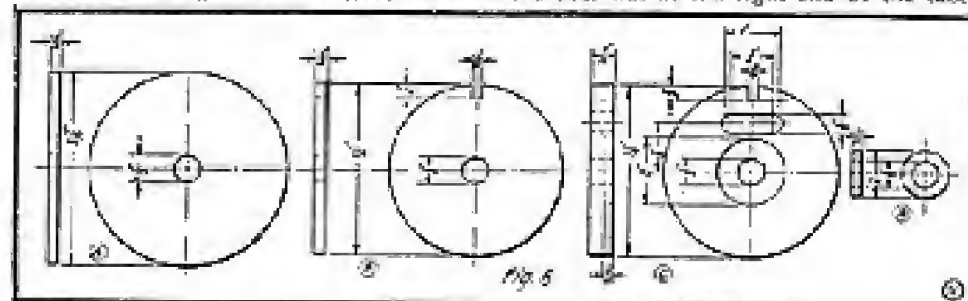

Fig. 8. End Discs of Secondary Coil.
Fig. 8 gives the size of these pieces. In turning them up, bore the 1/2-inch hole in the center first; then turn them on a wooden face plate which has a little mandrel to fit tightly in the hole. If the hole is not exactly in the center of the pieces the secondary will not be concentric with the primary. Take (A) first. After shellacking and rubbing it down, fasten it in the left-hand end of the primary tube with strong glue. To fit properly in the box the end of the tube must be at right angles with its axis.
Now, when the case is put together, except the top (look at Figs. 2 and 3) to see where to fasten the slide tube. First put the primary, secondary and small end piece (D, Fig. 8) on the tube, with the coils in the center. Do not fasten the front on yet. Spread cold glue thinly on the primary end piece and the piece (D). Press them against the ends of the case, estimating the distances shown on the drawings. Quickly, before the glue can set, put two or three screws in the front—just enough to hold it in position. Take the rod which is to go through the screw eyes X on the end of the secondary and put it through the tube of the coupling adjust-